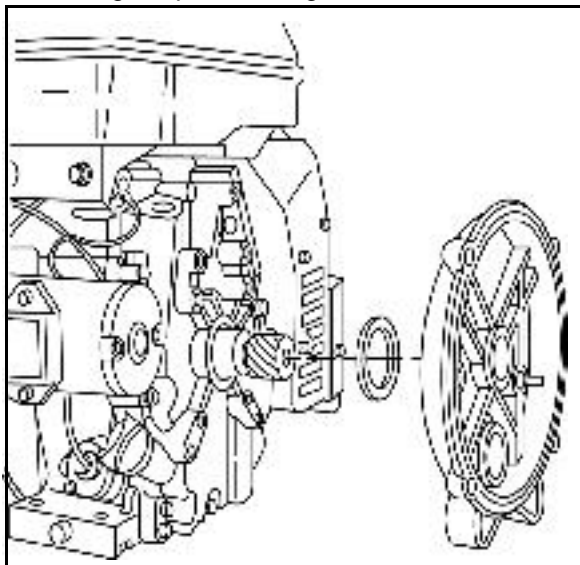

Fig. 27
1. Install new cork gasket on housing, and place housing against cylinder cover in original position, Fig. 27.
2. Install mounting screws (A) and locking plates ([B] Fig. 27). Torque to listed value. **See SECTION 14- ENGINE SPECIFICATIONS.**